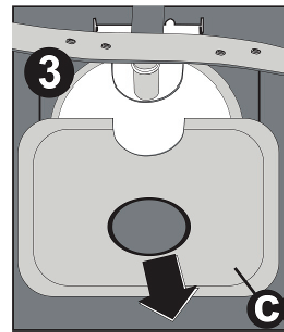

Fig. 15
- Remove the base filter from the dishwasher compartment (Fig. 15).